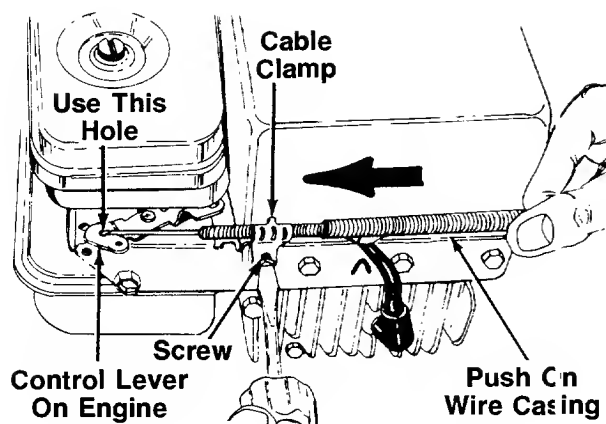

FIGURE 6A.—Models 272R and 282R
2. The throttle control cable is attached to the upper handle. Route the throttle control cable under the lower handle, inside the handle mounting bracket and underneath the drive cover. Hook the "Z" end of the throttle control cable into the arm on the control lever on the engine which has two holes, using the **outside** hole as shown in figure 6A.
3. Remove the screw on the cable clamp on the engine shown in figure 6A. Slip the control casing under the clamp. Replace the screw, but do not tighten (cable must still move freely beneath the clamp).
4. Slide the control lever on the engine as far toward the **outside** of the engine as it will go. Push the wire casing on the throttle control cable toward the control lever on the engine as shown in figure 6A as you tighten the screw on the cable clamp to secure the cable in this position.